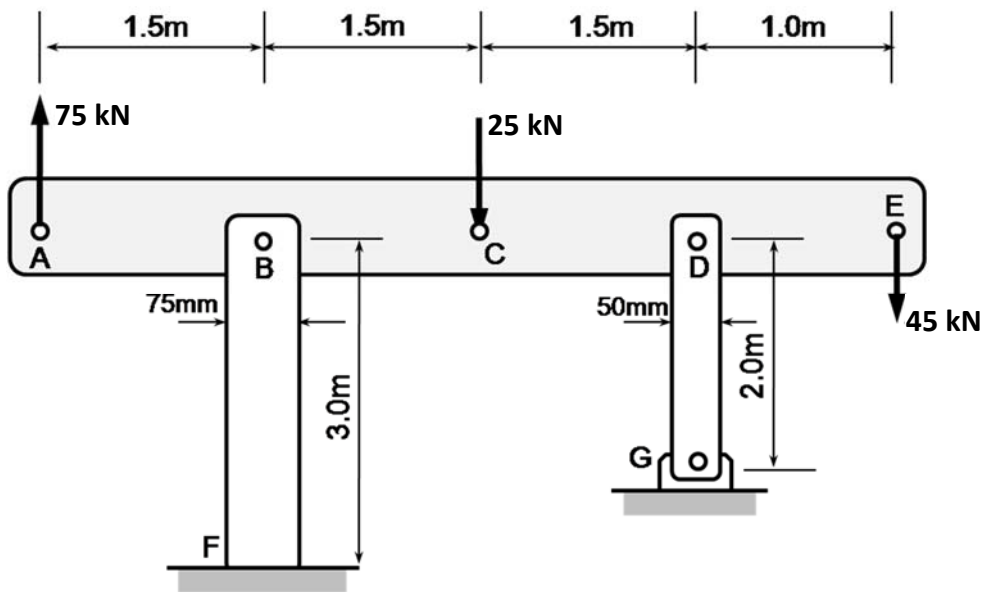
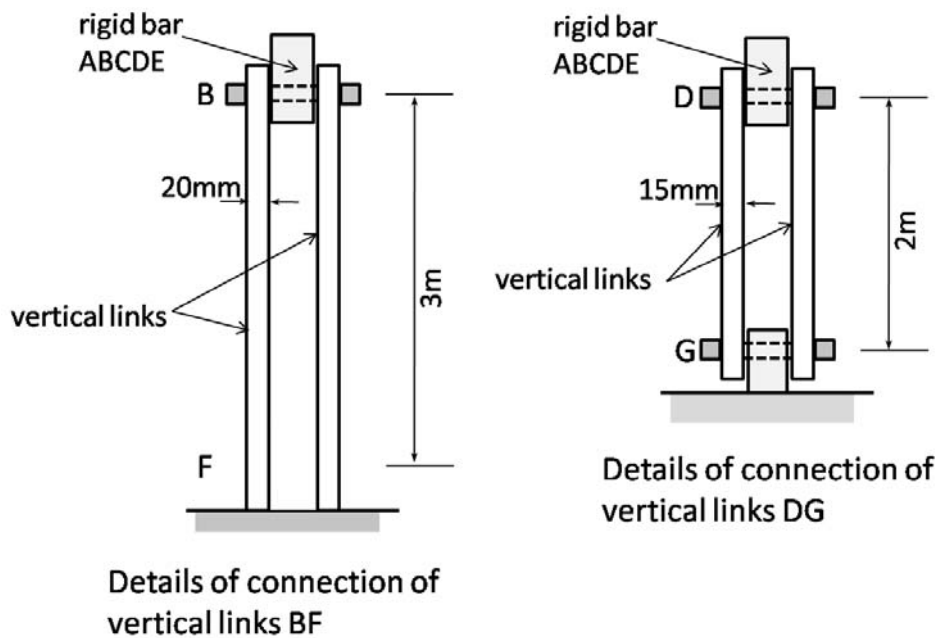

Figure 6/Rajah 6
Figure 7/Rajah 7
- [b] A rectangular rigid bar  $AE$  is supported by two pairs of vertical links at  $B$  and  $D$  as shown in **Figure 6**. Loads of  $75\text{ kN}$ ,  $25\text{ kN}$  and  $45\text{ kN}$  act at point  $A$ ,  $C$  and  $E$ , respectively. The cross-sectional size of each of the rectangular vertical link joining  $B$  and  $F$  is  $75\text{ mm} \times 20\text{ mm}$  and the corresponding size for vertical link joining  $D$  and  $G$  is  $50\text{ mm} \times 15\text{ mm}$ . The material for both links  $BF$  and  $DG$  is the same with modulus of elasticity  $E=135\text{ GPa}$ . Details of connection of vertical links  $BF$  and  $DG$  are given in **Figure 7**.